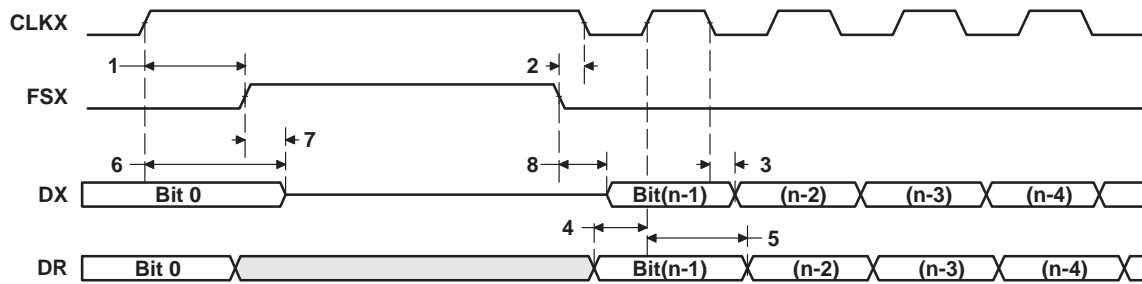

Figure 37. McBSP Timing as SPI Master or Slave: CLKSTP = 10b, CLKXP = 1
**timing requirements for McBSP as SPI master or slave: CLKSTP = 10b, CLKXP = 1†‡ (see Figure 37)**
**switching characteristics over recommended operating conditions for McBSP as SPI master or slave: CLKSTP = 10b, CLKXP = 1†‡ (see Figure 37)**